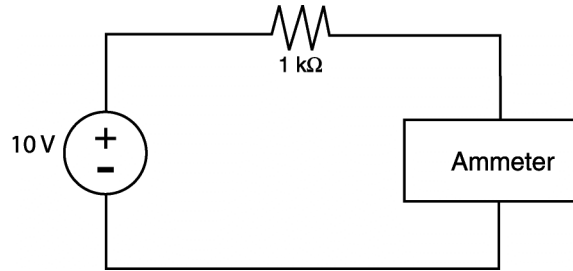

Figure 1: Circuit illustrating the measurement of current.
1. Assemble the circuit in Figure 1 with the voltage source set to 10V and using the same (nominal $1\ \text{k}\Omega$) resistor as measured in the beginning of Section 8.
An ideal ammeter has zero resistance so that the circuit in which it has been placed is not disturbed. An ideal ammeter is a short circuit. However, as with the voltmeter, no ammeter can ever be ideal, and therefore all ammeters have some (*hopefully*) small internal resistance. To determine the resistance of the ammeter, we will use the circuit in Figure 1.
2. Set the DC power supply to 1V. Assemble the circuit in Figure 1 using the DC power supply set to 1V. Set the multimeter to the ammeter mode for dc current measurement. Recall this means two things: Place the test leads in the correct banana jacks and press the proper sequence of softkeys.
Write a PSpice program to simulate the circuit built in Section 9 (Fig. 1). After running the PSpice code, check the output (file.out) to determine if the current flowing through the voltage source agrees with Ohm's Law and the value for current you obtained in the section. Include the PSpice code and pertinent results in your lab report.